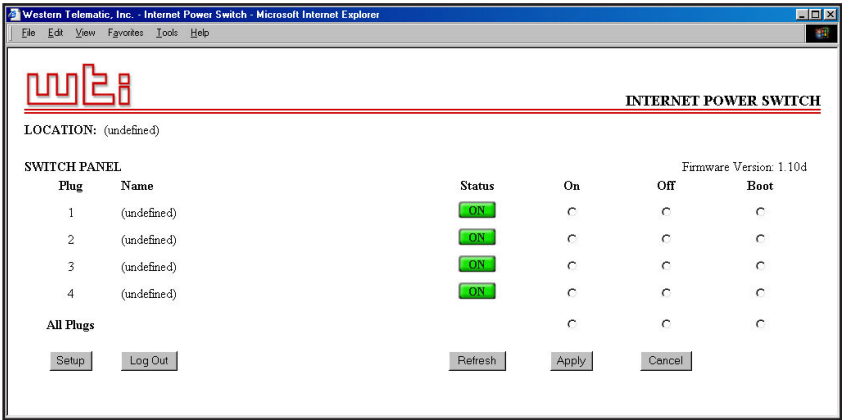

Figure 6.1: Plug Status Menu - Web Browser Interface
When you login to the IPS command mode, using the Web Browser Interface, the first screen that is displayed after login is the Plug Status Screen (or "Switch Panel".) The Plug Status Screen (Figure 6.1) lists the current On/Off status of the IPS's Switched Outlets and provides a series of "radio buttons" which are used to control On/Off/Boot switching of the outlets.
2. When the Plug Status Screen (Figure 6.1) appears, note that the screen includes a status field and On/Off/Boot controls for each of the IPS's four Switched AC Outlets.